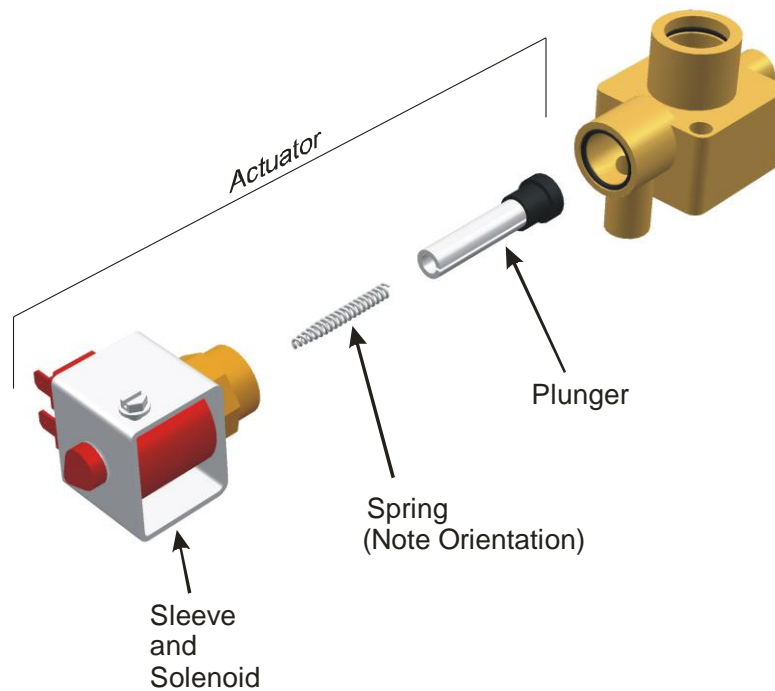

Figure 50: Drain Valve Actuator Assembly
- 7 Reassemble actuator making sure tapered end of spring is oriented as shown in Figure 50: Drain Valve Actuator Assembly. Tighten brass nut 1/4 turn past hand tight.